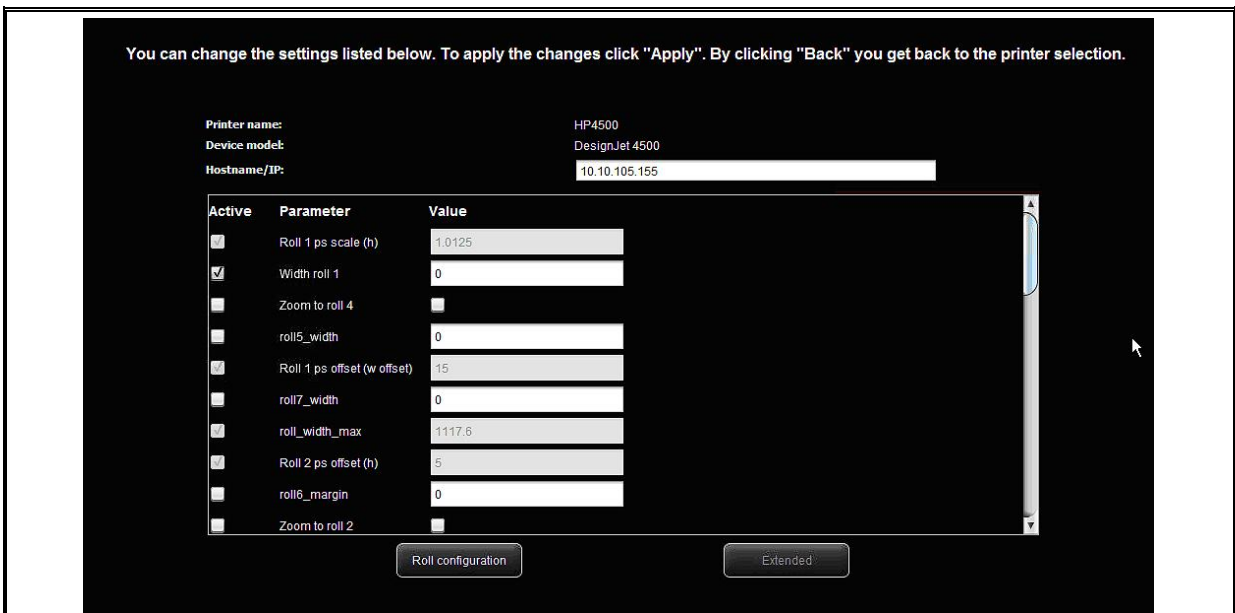

Figure 6.16: Extended printer settings
- Call extended settings (see Figure 6.16).